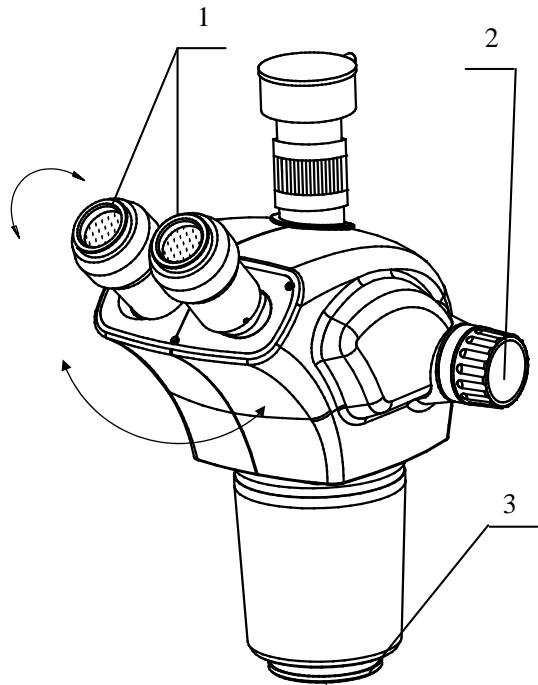

Figure 3
Diopter adjustment proper correction for individual vision is accomplished via the diopter adjustment ring **1** located at both eyepieces, see figure 3
5.3-2 Proper interpupillary distance, or the distance between eyepieces, is crucial to the comfort of the user. Adjusting the interpupillary distance is accomplished through a “folding” action of the optical head, See figure 3. interpupillary distance :53~75mm.
5.3-3. Additional objective can tighten into the objective tube **3**. See figure 3. Working distance and magnification can be accordingly adjusted by using different auxiliary objectives. the computing formula is :